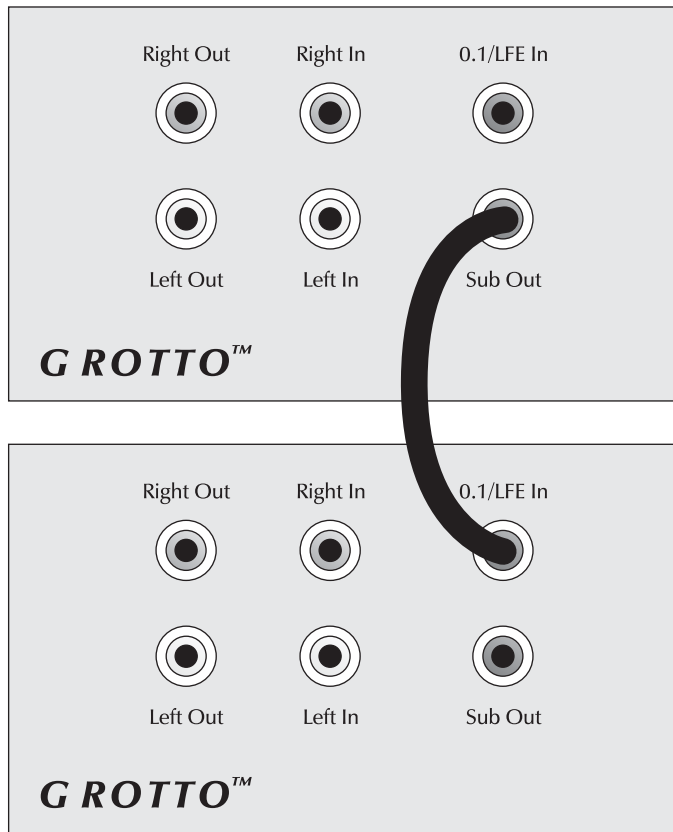
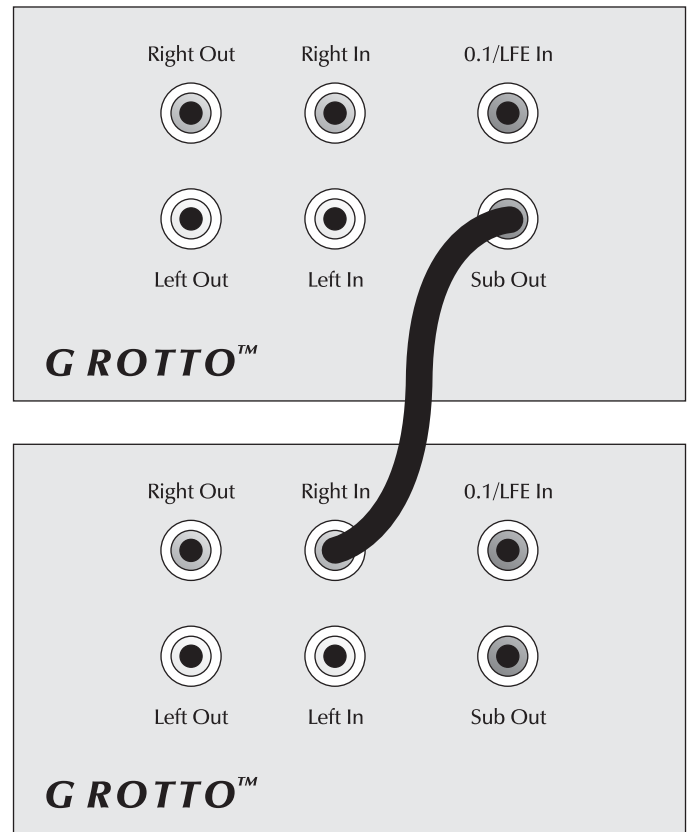

Figure 11. Signal connection for using multiple Grottos for LFE.
Figure 12. Signal connection for using multiple Grottos for stereo.
- 2 Connect the Sub Out of the previous Grotto to either the LFE or the Right (or Left) input of the next Grotto using a quality RCA interconnect. Connecting to the LFE input allows additional subwoofers to perform as dedicated LFE channels (see figure 11). Connecting to the Right (or Left) input allows additional subwoofers to perform as dedicated 2-channel subwoofers (see figure 12).